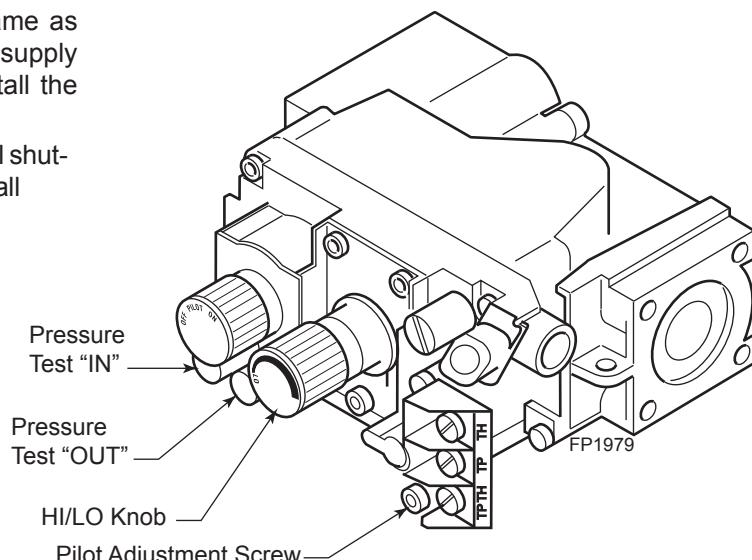

Figure 42 -
5. To check gas pressures at valve, turn captured screw counter clockwise 2 or 3 turns and then place tubing to pressure gauge over test point. Turn unit to high. *Figure 42.* After taking pressure reading, be sure and turn captured screw clockwise firmly to reseal. Do not over torque. Check test points for gas leaks.